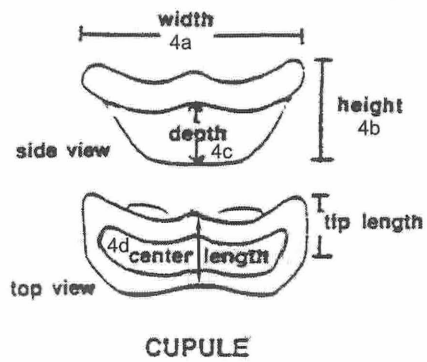

Figure 4
- 4a: Cupule Width – is the maximum measure of the cupule at its widest point of the cupule along the cross section when the cupule is in a normal position on the cob (measure 4a on Figure 4).
- 4b: Cupule Height – The height is the measure of the cupule from the base of the cupule to its highest point (measure 4b on Figure 4).
- 4d: Cupule Center Length – The measure from the front edge of the center of the cupule to the back edge of the cupule (exterior to exterior), when looking down on the cupule when it is in the normal position on the cob (measure 4d on Figure 4).
- 4c: Cupule Depth – The depth measure is taken with the dental tool, using the mm marks. Place the tool in the center of the bowl of the cupule and read the measure to the front edge of the cupule while resting the dental tool against the side of the cupule (measure 4c on Figure 4). This is not a very accurate measure due to the warping and distortion of the cupule and the problem of reading the marks on the dental tool.